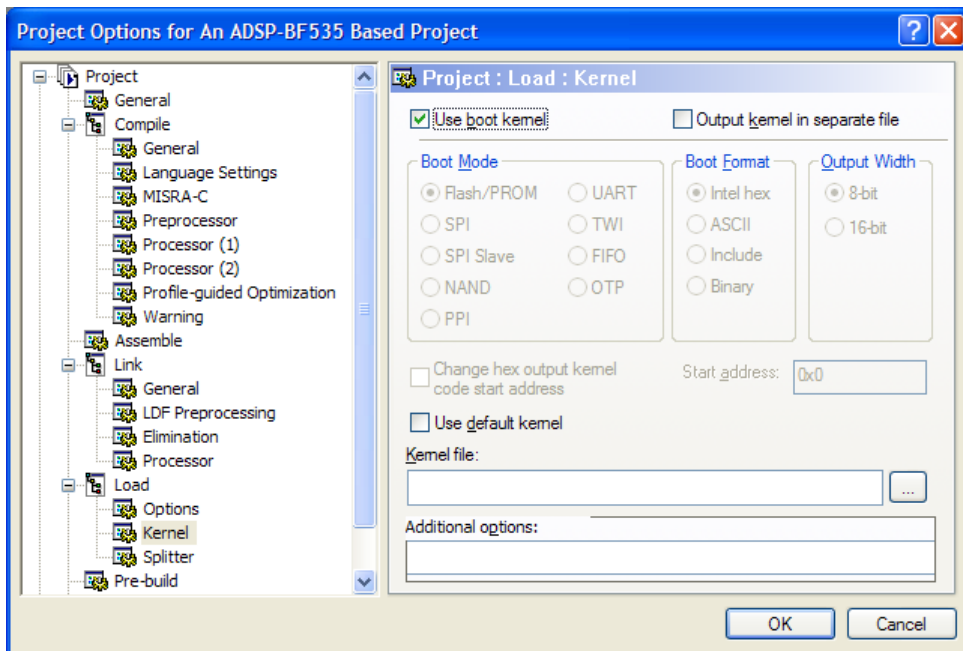

Figure 3-28. Project: Load: Kernel Page for ADSP-BF535 Processors
Unless you develop an application for the ADSP-BF535 processor, most of the options on the **Kernel** page are grayed out. Figure 3-28 shows a sample **Kernel** page with options set for an ADSP-BF535 Blackfin processor.
2. Select **Kernel** (under **Load**) to set up the second-stage loader options (Figure 3-28).